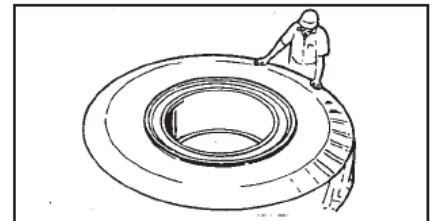

Figure 2
6. Remove the tire/rim assembly from the vehicle and place it flat on the ground with the gutter side up. (See Fig. 2.)